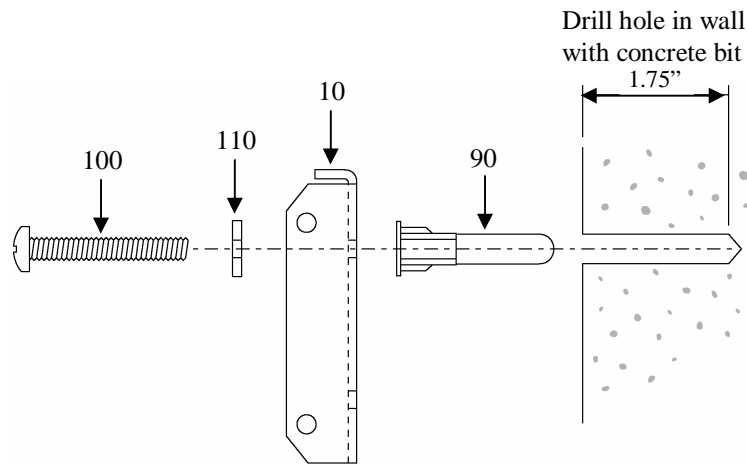

Figure 15. Mount the Speaker Wall Bracket
3. Using a 7/32" concrete drill bit, drill four holes at least 1-3/4" deep into the concrete wall surface at the marked locations (see Figure 15).
4. Install four alligator toggle anchors (90) into the pre-drilled holes.
5. Secure the wall bracket (10) to the concrete wall using the four 5/16" lag bolts (100) with four 5/16" flat washers (110).